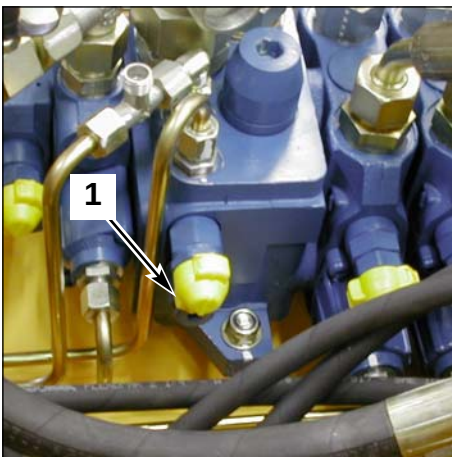

Fig. 2 SX14 valve block
- 3- Loosen the L.S. controller (1 fig. 2) previously over-tared, then adjust the pressure by turning the screw clockwise in order to increase the pressure.